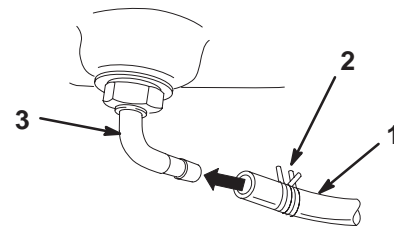

Figure 13
- Slide the hose clamp onto the fuel line (Fig. 13).
- Push the fuel line onto the fuel tank connection and secure it with a hose clamp (Fig. 13).